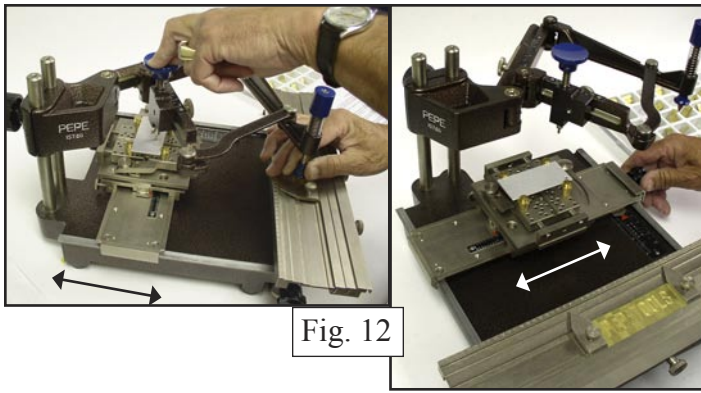

Fig. 12
14. Adjust the article-holding table by moving the table left or right and up or down. ***Fig. 12***